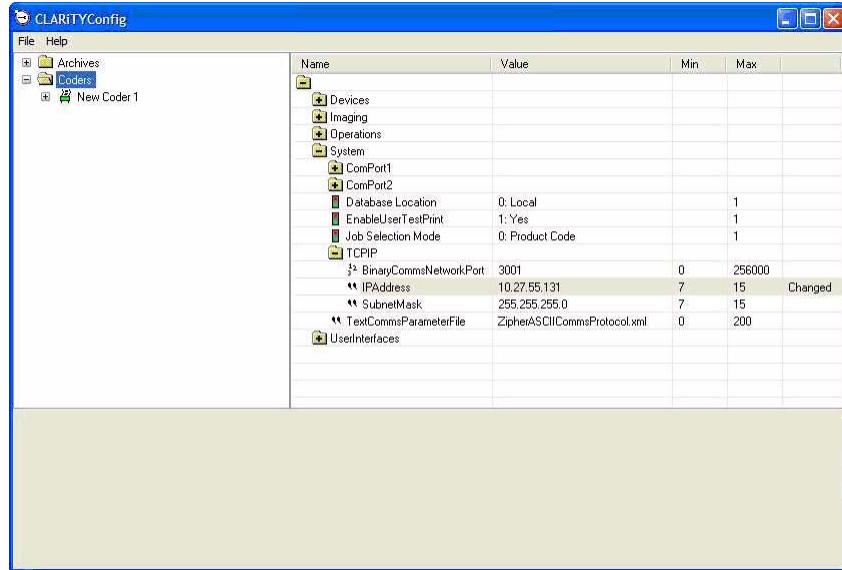

Figure 3-15: IP Address Settings on the Printer
- 4** Locate the TCP/IP configuration parameters as shown in Figure 3-15.
6 Set the IP address to be in the same range as the PC port (for example 10.27.55.131 in Figure 3-15 on page 3-22)